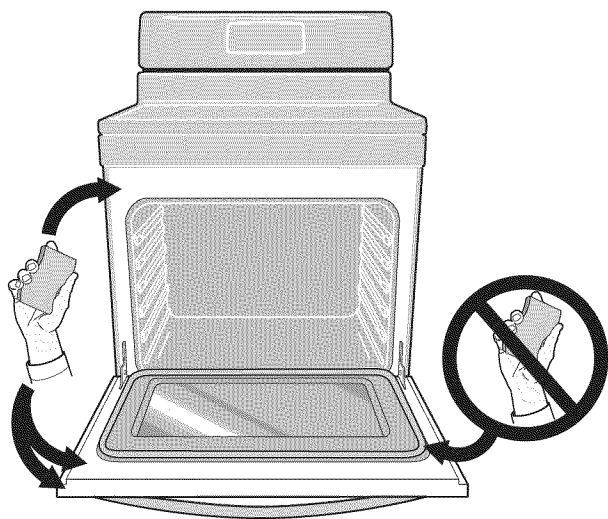

Figure 37: Areas to clean and to avoid
- Do not use oven cleaners or oven protective coatings in or around any part of the oven interior. Clean any soil from the oven frame, the door liner outside the oven door gasket, and the small area at the front center of the oven bottom (Figure 37). These areas heat sufficiently to burn soil on. Clean using soap and water prior to starting Self Clean.